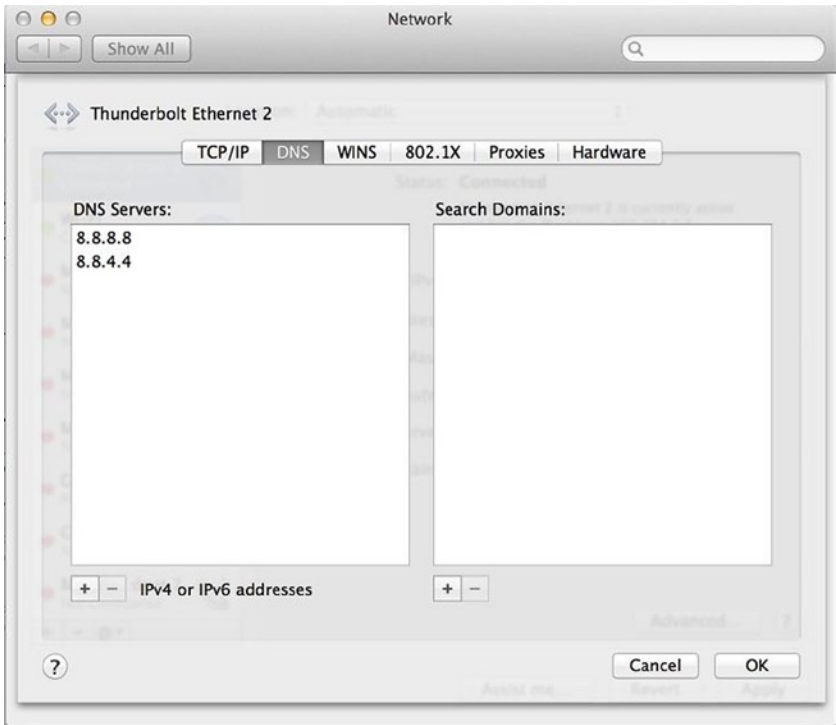

Figure 5-17. *Configuring the DNS servers on MacOSX*
- 4. Click on Advance and select the DNS tab to configure the DNS server, as shown in Figure 5-17.